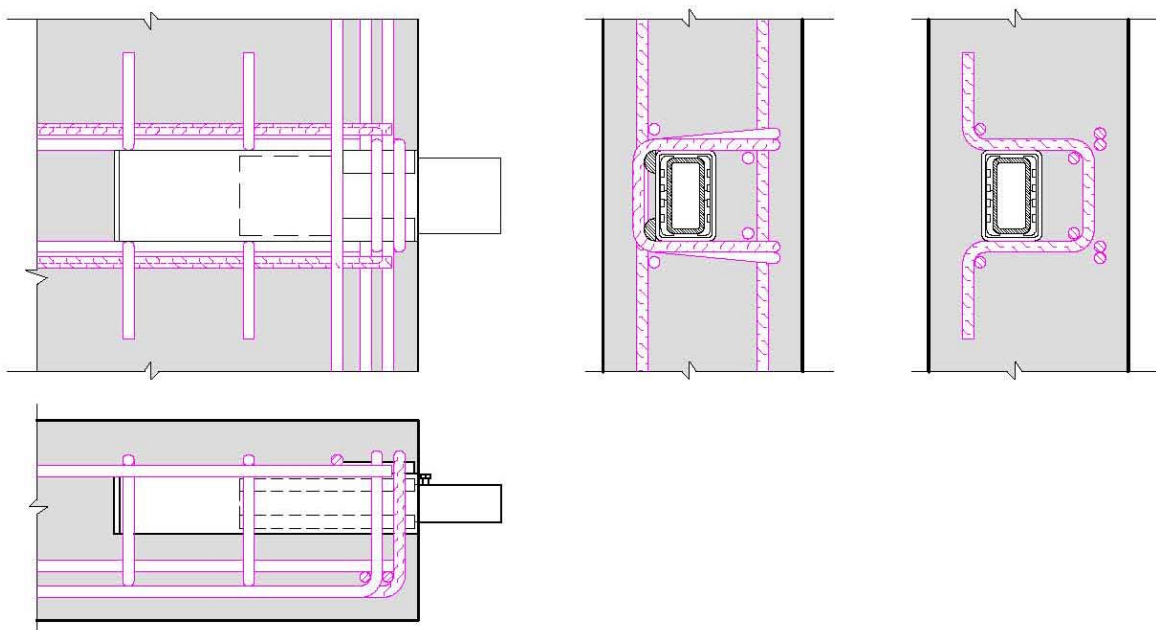

Figure 5: Anchoring reinforcement.
- One transverse bar to be placed in the bend of every anchoring bar, see Figure 5.